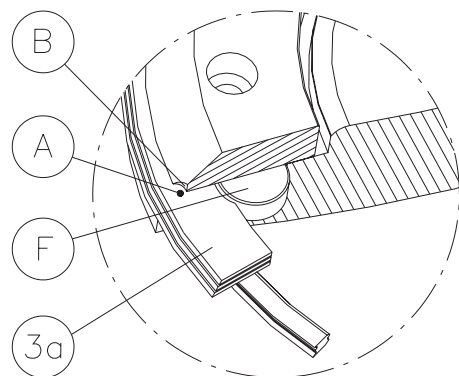
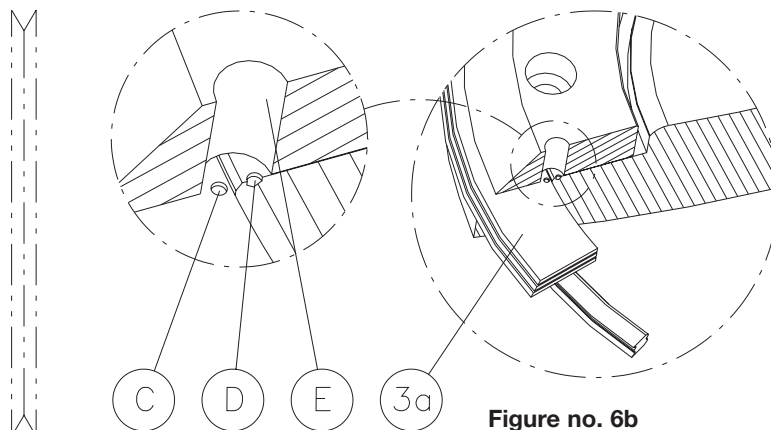

Figure no. 6a
Figure no. 6b
- solution 1 - ref. to figure no. 6a - align the internal slot of the seal ring (3a) to the reference pin (F).
- solution 2 - ref. to figure no. 6b - align the reference mark (C) on the seal ring (3a) with the relevant reference mark (D) on the disc.
- solution 1 - ref. to figure no. 6a: make sure that the slot on the edge of the seal retainer ring (B) is in correspondence with reference pin (F).
- solution 2 - ref. to figure no. 6b: ensure to locate the hole (E) of the seal retainer ring with the relevant marks on the disc (D) and seal ring (C).
- 17 Open the disc a few degrees and tighten, using a torque wrench, all screws (2c). Use a torque value from Table III for valves according to solution 1 (ref. to figure no. 6a). Use instead a torque value from Table II for valves according to solution 2 (ref. to figure no. 6b).
#### • Solution 1- ref. to figure no. 6a:
#### • Solution 2 - ref. to figure no. 6b: